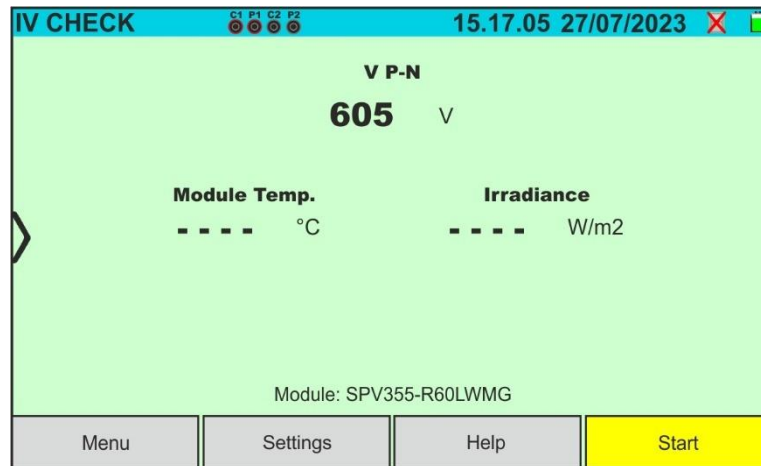

Fig. 57: Initial IVCK test screen without remote unit on Monofacial modules
7. In the case of **Monofacial** modules, the Fig. 57 screen is present on the display. The following parameters are shown: